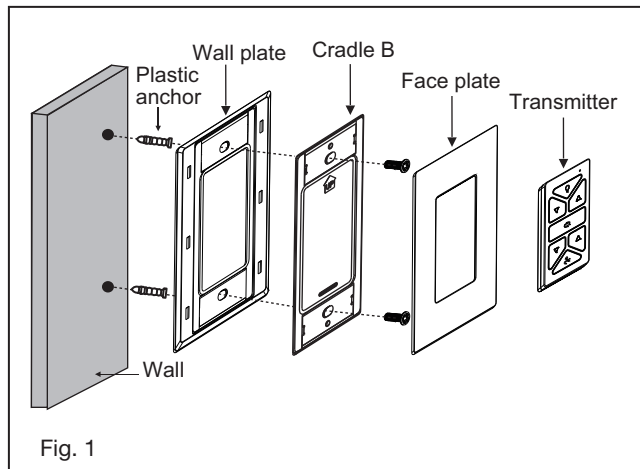

Fig. 1
- 1 Remove ball from downrod by loosening set screw in the side of the ball. Slide ball down and remove ball pin; remove ball. (Fig. 1)
1. Insert the receiver into the ceiling mounting bracket with the flat side of the receiver facing the ceiling. (Fig. 1) For best performance, make sure the Black Antenna and WIFI Antenna, on the end of the receiver, remains extended and not tangled with any of the electrical wires.
- 1 Remove one of the three screws on the mounting hub located on the fan motor. Loosen the other 2 screws. (Do not remove) (Fig. 1)
- 1 Select a desired location. Use the wall plate to mark the location of the mounting holes. Plastic wall anchors or mounting screws are needed for this application. (Fig. 1)
Remove the panel from the transmitter and then install one 2032 battery (included). You need to use a coin to open or close the battery cover. To prevent damage to transmitter, remove the battery if not use for long periods of time (Fig. 1)